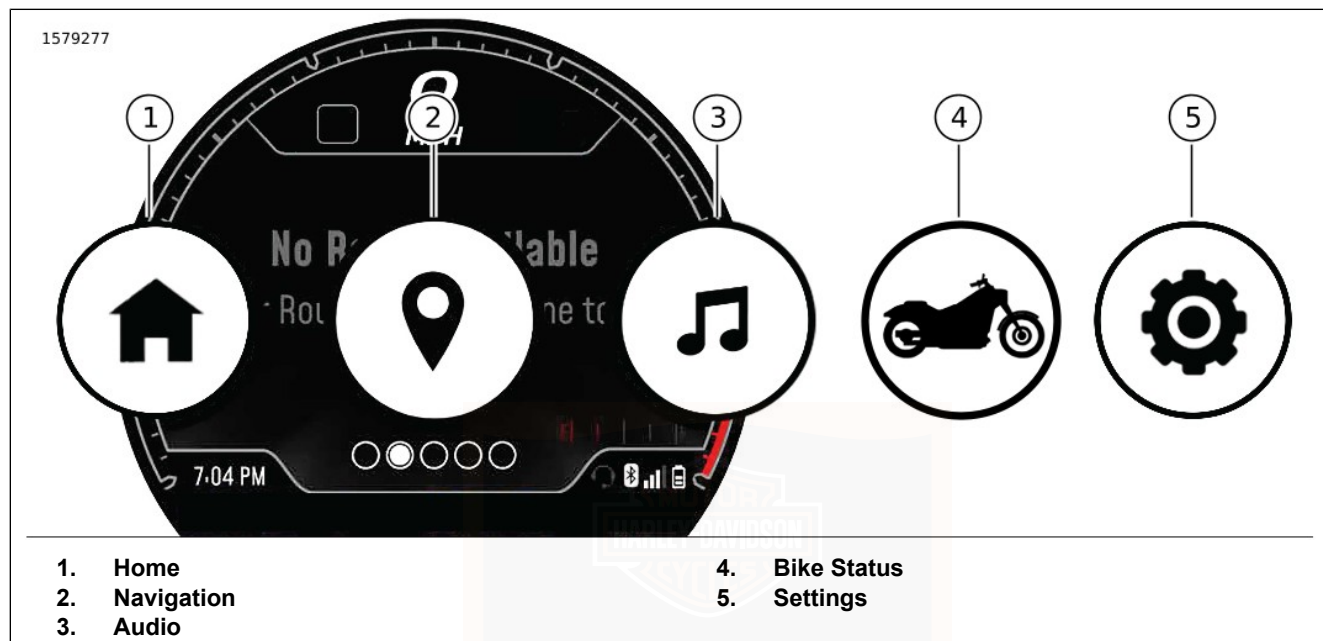

Figure 32. Menu Selections
See Figure 32. To access the menu selections on the IM press the menu button on the Left Hand Control Module (LHCM). Refer to: OPERATION > LEFT HAND CONTROL SWITCHES (Page 78).
2. See Figure 32. **Select:** settings menu (5).
See Figure 32. To access audio functions **Select:** audio card (3).
1. See Figure 32. **Select:** settings menu (5).